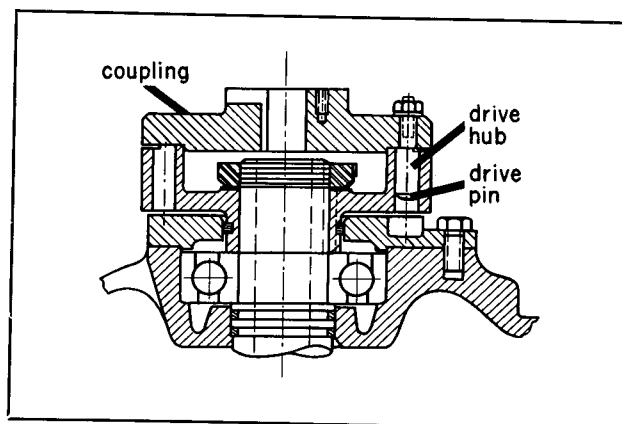

FIG. 2. Pin Type Coupling
2. Clutch Type. These motors are equipped with a disengaging clutch that consists of a coupling and a drive hub. The drive hub is keyed to the motor shaft, and the coupling is keyed to the pump shaft and attached through a screw to the adjusting nut. The coupling centers on the drive hub by means of a machined fit. The coupling is driven by two pins attached to the coupling and engaging corresponding holes in the drive hub. Disengagement of the clutch is caused by a lifting of the pump shaft which separates the pins in the coupling from the holes in the drive hub. Refer to Figure 2.